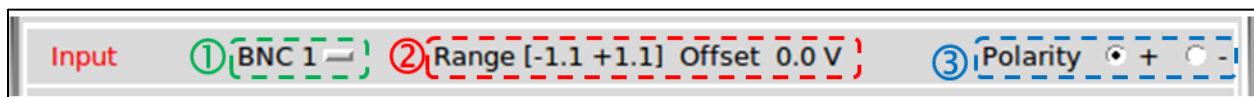
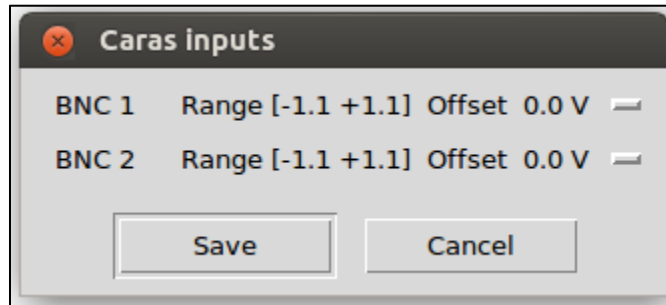

Figure 9: The raw signal parameters.
Figure 12: fullscale range interface for CARAS daughter board.
In this module, the user has to define the raw signal (cf. Figure 9). That means:
Each SMB channel can have a different dynamic input range from [0.0 +2.2] V to [-2.2 0.0] V. This dynamic range is configured by the user, by clicking on “Range” switch ② Figure 9. A new interface is launched (cf. Figure 12): the user can add a voltage source (called “Offset”) between -1.1 V and 1.1 V with 0.1 V-step.
The FASTER-SAMPLER process uses positive values. If the detector provides a negative signal, it is essential to convert it into a positive signal, with selection check button ③ (Figure 9).